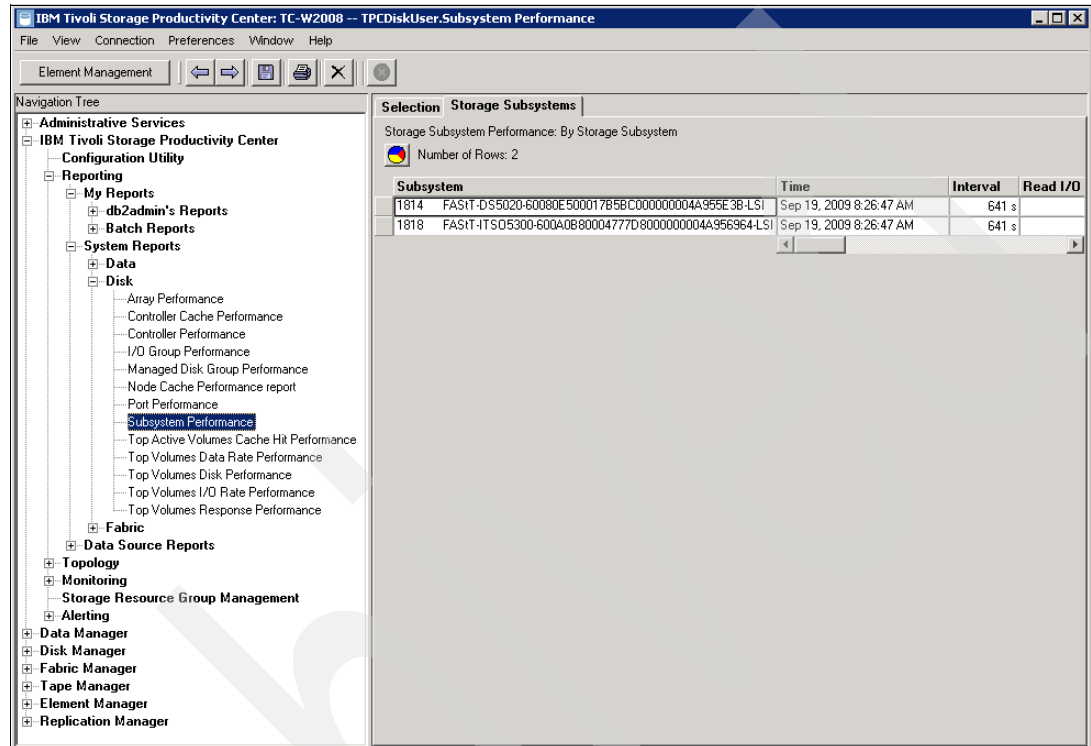

Figure 9-28 Subsystem Performance report
- Click one of the listed predefined reports (note that not all predefined performance reports support DS4000/DS5000 at the time of writing). In the example, shown in Figure 9-28, we click **Subsystem Performance** report to display a list of all storage subsystems monitored by TPC with their performance metrics values. Note that column *Subsystem* shows the machine type and model followed by its serial number.